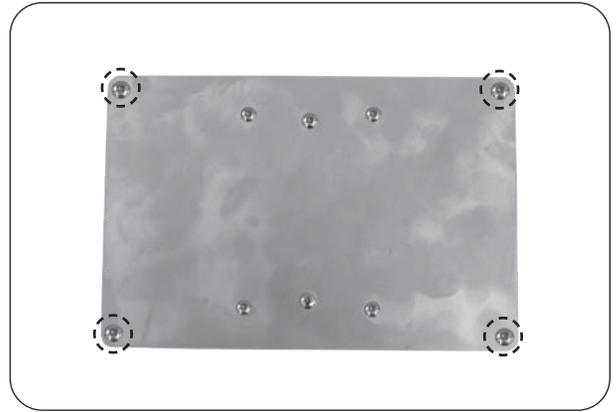

Fig. 42-1 Remove 4 large screws
2. Using a phillips screwdriver, remove the 4 large screws found on the cover of the power supply box (see Fig. 42-1).